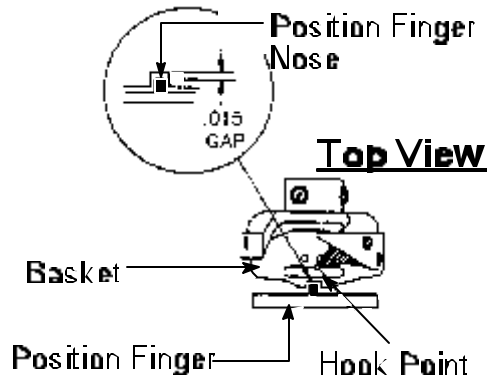

Figure 2
5. Move Position Finger Nose **forward or back** from hook basket allowing enough clearance for thread to pass between easily. See Figure 2.